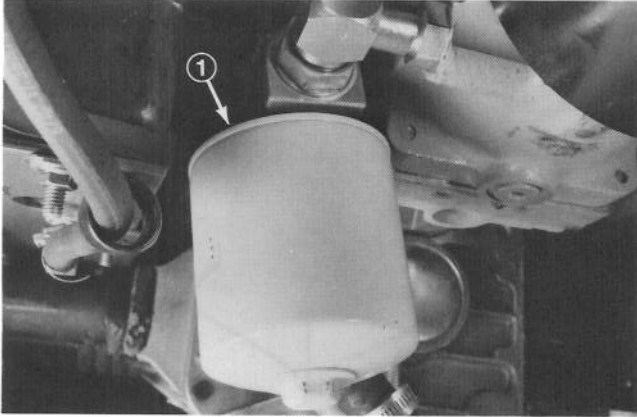

Figure 63
1. Clean area where hydraulic oil filter mounts. Remove filter from base (Fig. 63) and clean filter mounting surface.